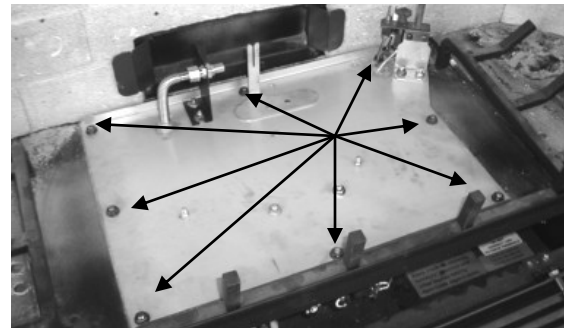

Figure 11B
11. Remove and save the (8) 1/4" nuts securing millivolt board and, while grasping the board, gently lift it off the (8) studs and remove from the firebox. Figure 11B.
1. Grasp the burner with both hands and place into the firebox, lining up the (8) 1/4" holes in the millivolt board to the (8) studs on the firebox bottom. Refer to Figure 11B.
9. Re-install the log grate, (Figure 11B, logs and rock wool burning embers (page #17).